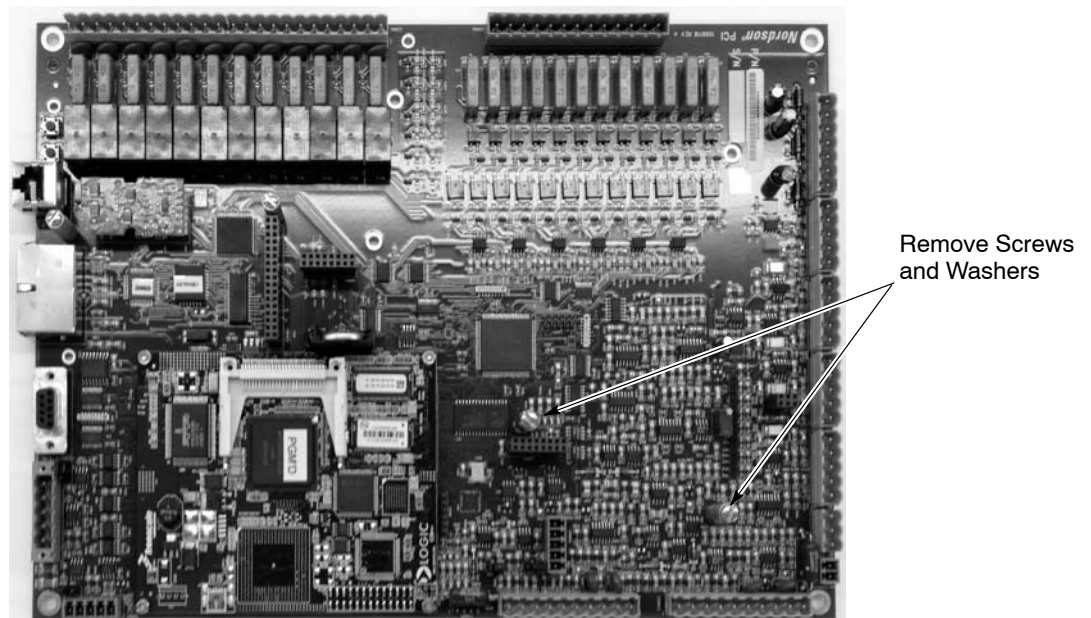

Figure 1 PCI Controller Board Preparation
1. Open the PCI controller enclosure, locate the PCI controller board, and remove the two screws and washers from the board standoffs shown in Figure 1. Save the screws and washers for reuse.